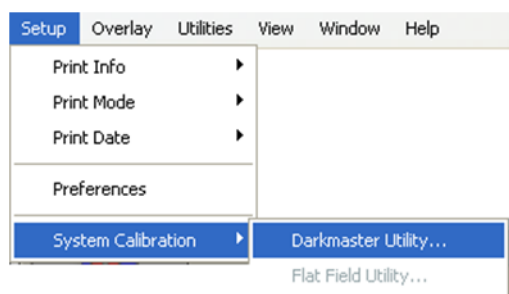

Figure D-1: Setup Menu Options
3. Access the utility from the application menus; see Figure D-1.